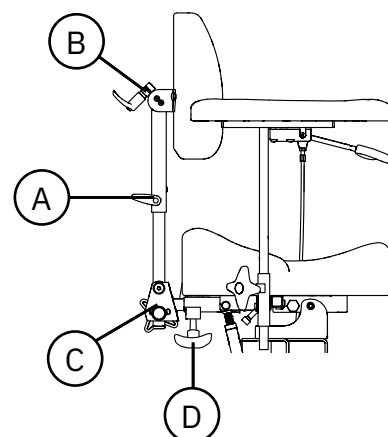

Figure 5.25. Medic backrest mechanism.
Medic has adjustable height (A), back support angle (B), back-rest mechanism angle (C) and depth (E) (see Figure 5.25). The back recliner can be adjusted in the range of 15° forward to 45° backwards.